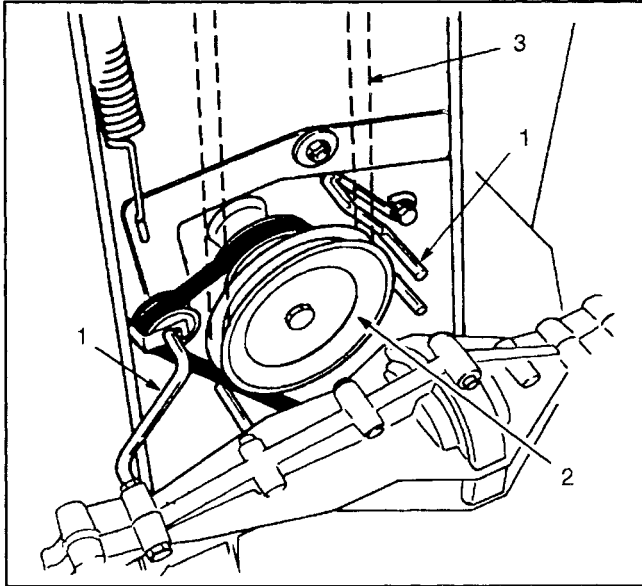

Figure 22
2. Set the height-of-cut control to the lowest setting. Loosen the belt guides near the engine pulley and rotate them out of the way. Remove the belt from the engine pulley (Fig. 22).
3. Loosen and remove (1) mounting screw securing each belt guide to the cutting unit. Pivot the belt guides away from the spindle pulley and remove the belt. Visually inspect the belt for wear or damage (Fig. 22).